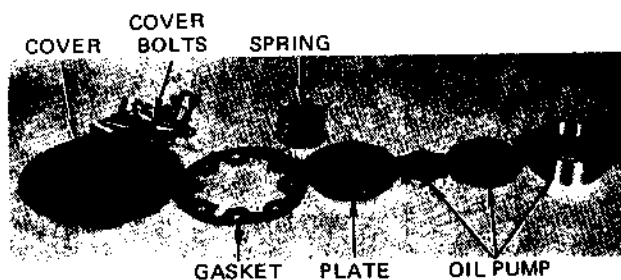

Figure 54
6. Figure 54 illustrates the oil pump assembly.